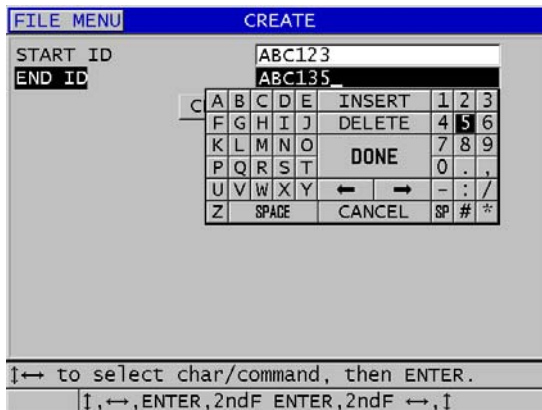

Figure 11-5 Selecting the ID range for the sequential file type
3. In the second page of the **CREATE** screen (see Figure 11-5 on page 168):